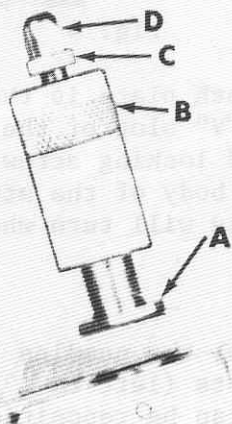

Fig. 3
Sufficient pressure to feed work uniformly should be maintained. Should it be necessary to increase or decrease amount of pressure on presser foot, loosen lock nut (A, Fig. 3) and turn the adjusting screw (B). Adjusting screw has a right hand thread so tightening increases the pressure, loosening decreases pressure. When pressure adjusting screw (B) has been properly set, tighten lock nut (A). With presser foot resting on the throat plate, position locking nut (C) so that its under surface is approximately 1/32 to 1/16 inch (.79 to 1.59 mm) from the top surface of adjusting screw (B). Set the cap (D) against the locking nut (C).